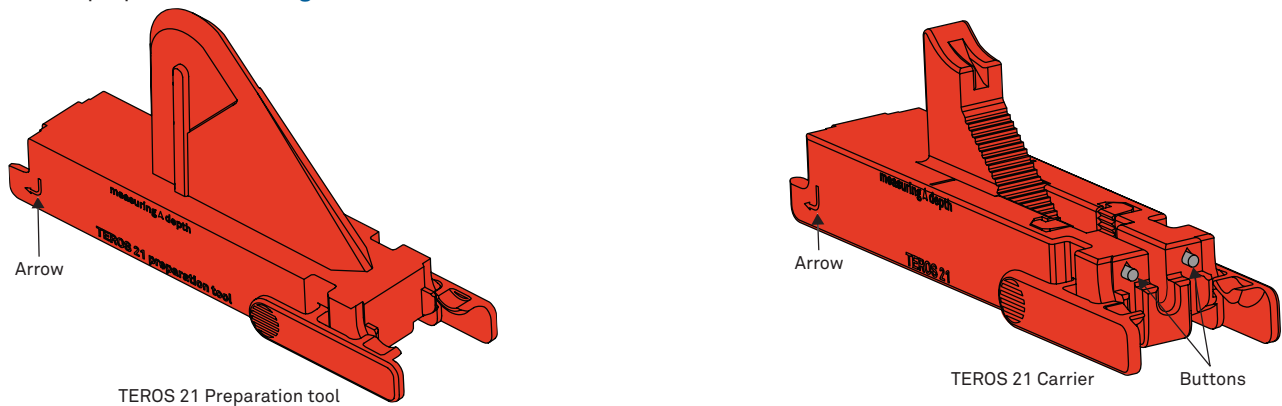

Figure 19 TEROS 21 preparation tool and sensor carrier
1. Select the preparation tool (Figure 19).
2. Find the **Arrow** at one end of the preparation tool (Figure 19).
2. Find the **Arrow** at one end of the TEROS 21 sensor carrier (Figure 19).
When the handle lever is raised to the raised position, the carrier mount retracts and the two buttons (Figure 19) on the sensor carrier extend, holding the sensor in place. The carrier mount is in the retracted position.